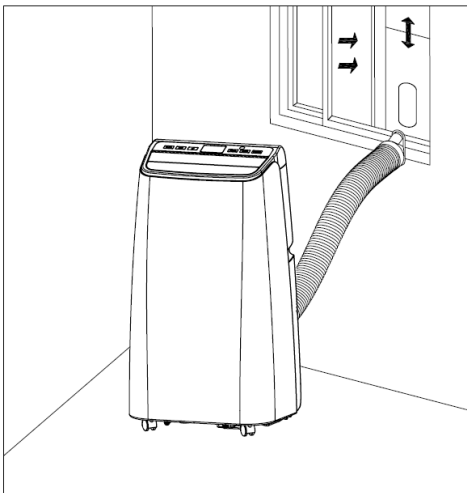
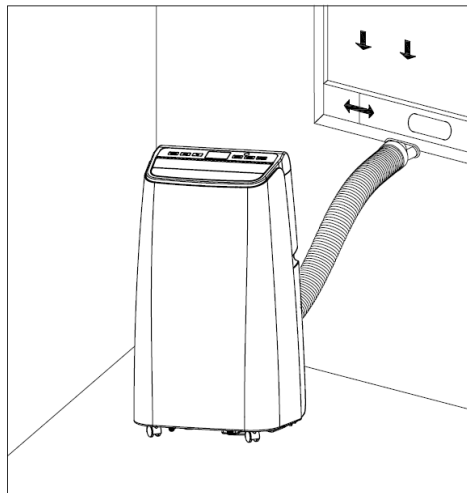

Figure5
Figure 6
2) Elongate the heat pipe and snap the flat end of the heat pipe joints into the elliptical hole of the window sealing plate assembly (as shown in Figure 5 and Figure 6) .